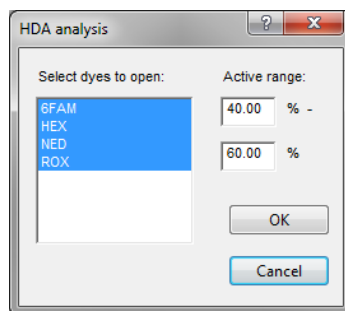

Figure 3.9: Select dyes to open.
5.1 Select **Batch1** and choose **HDA > Analyze** from the menu, or press the  button to call the *HDA analysis* dialog box (see Figure 3.9).
If an active range is set (see Figure 3.9), the rescaling will be calculated within the active range.